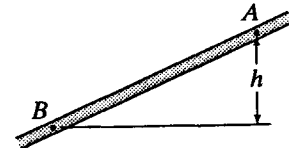

Figure X5.3.4
5.3.5 If $h = 10.5$ m in Fig. X5.3.4 and the pressures at A and B are 170 and 275 kPa respectively, find the direction of flow and the pipe friction head loss in meters of liquid. Assume the liquid has a specific gravity of 0.85.